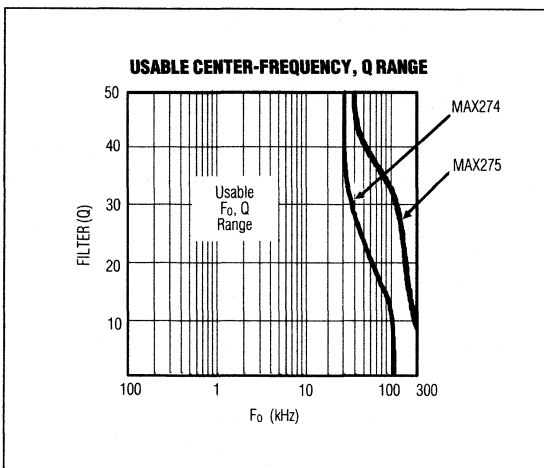

Figure 4. Usable  $F_o$ ,  $Q$  Range. See *Translating  $F_o/Q$  Pairs into Hardware (Resistor Selection)*.
**1. Check all  $F_o/Q$  pairs for realizability.** The MAX274/MAX275 have limits on which  $F_o/Q$  values can be implemented. These limits are bound by finite amplifier gain-bandwidth and amplifier load drive capability (which limit the highest frequency  $F_o$ /highest  $Qs$ ) as well as amplifier noise pickup and susceptibility to errors caused by stray capacitance (which sets a low-frequency limit on the poles). Refer to Figure 4 to be sure each  $F_o/Q$  pair is within the "realizable" portion of the graph. If filter  $Qs$  are too high, reduce them by increasing the filter order (that is, increase the number of poles in the overall filter).
High-frequency  $F_o$ s (up to 400kHz) and high  $Qs$  outside of Figure 4's limits are also realizable, but  $F_o$  and  $Q$  will deviate significantly from the ideal. Adjust resistor values by prototyping.